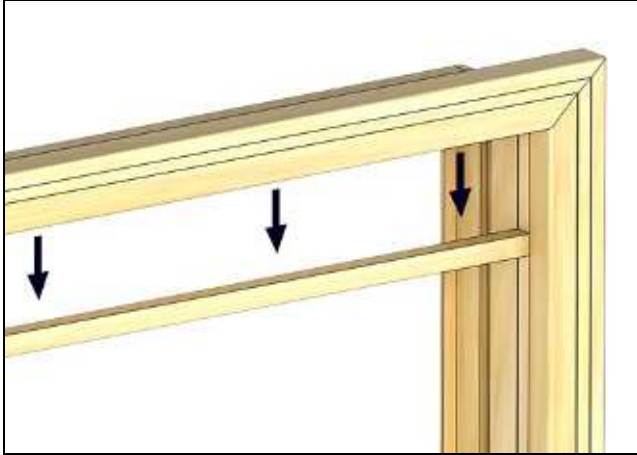

Figure 4
3. Remove the parting stop from head jamb with a stiff putty knife or pry bar. Remove parting stops from both side jambs. See Figure 4. Lower top sash and cut balance cords. Remove the top sash, disconnect and remove any balance mechanisms attached.